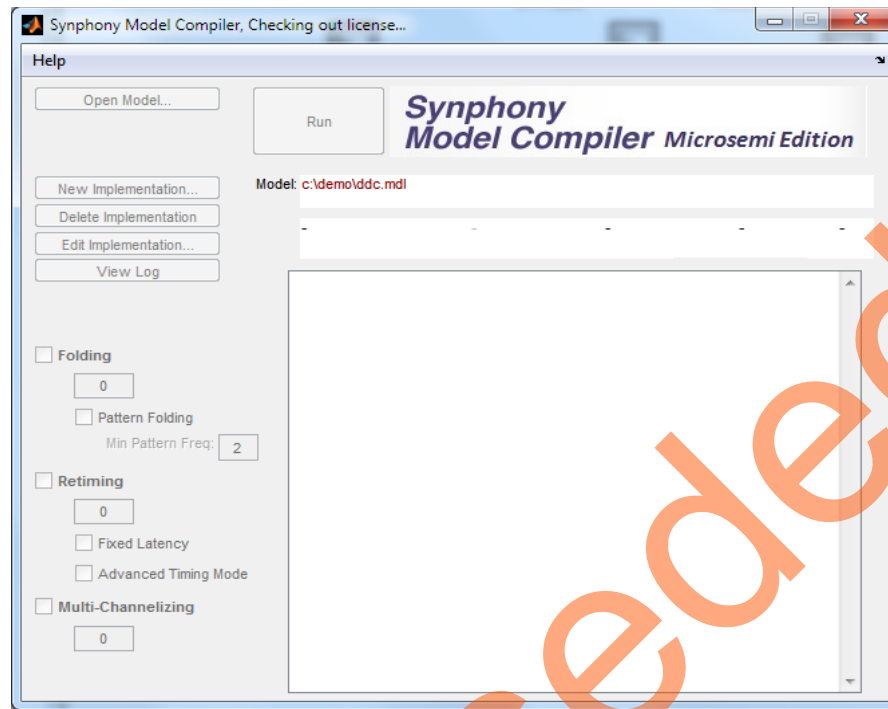

Figure 6. Symphony Model Compiler ME User Interface
8. Double-click the **SHLS Tool** toolbox inside the model file and launch the Symphony Model Compiler ME J-2015.03M, as shown in Figure 6.